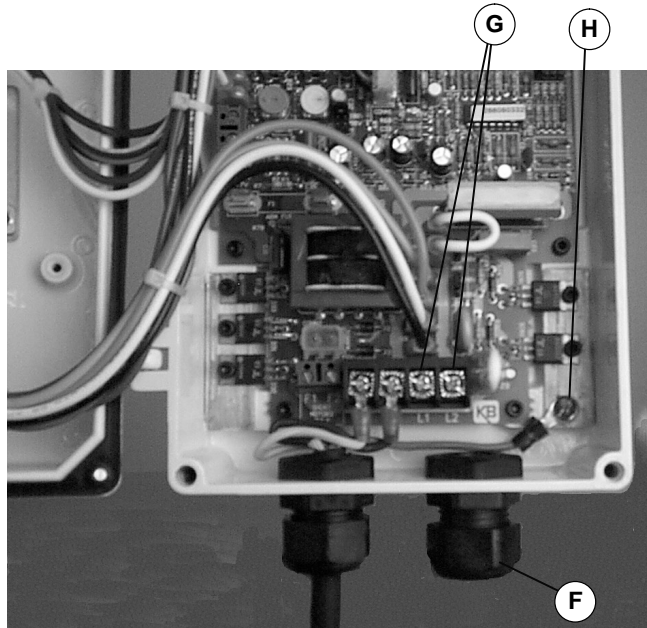

Figure 2
1. Insert line cord through cord grip (F of Figure 2). Terminate 115 volt, single phase line to L1 and L2 connection (G). Terminate ground to connection (H).